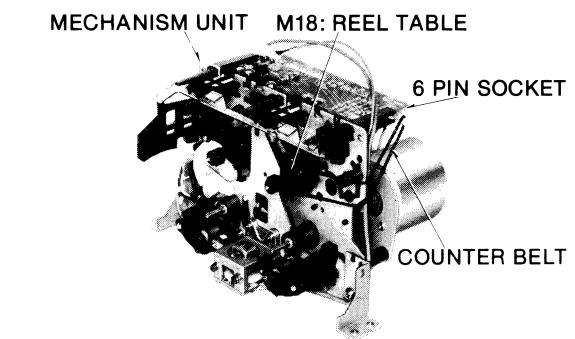
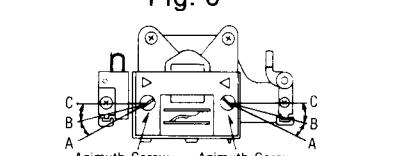

Fig. 12
Fig. 7
- Before attaching the Mechanism Unit to the Front Panel Assembly, thread the Counter Belt over the Reel Table (M18) and the 6-pin Jumper Socket Cover as shown in Fig. 12, and then secure the Mechanism Unit with two screws (K) (Refer to the Fig. 7.). Then, remove the Counter Belt from the 6-pin Jumper Socket Cover, and thread it over the Tape Counter Pulley as shown in Fig. 7. Make sure that the Counter Belt is not twisted.
Adjust the azimuth screw (Forward) shown in fig. 7 for maximum output L-CH and R-CH levels.
10. Turn the azimuth screw (Forward) shown in fig. 7 to find angles A and C (points where peak output levels for left and right channels are obtained). Then, locate angle B between angles A and C, i.e., point where L-CH and R-CH outputs are balanced. (Refer to figs. 7 and 8.)
13. In the forward playback mode, playback the 8kHz signal from the test tape (QZZCFM). Adjust the azimuth screw (Forward) shown in fig. 7 so that pointers of the two VTVMs swing to maximum and a lissajous waveform as illustrated in fig. 9-1 is obtained on the oscilloscope.